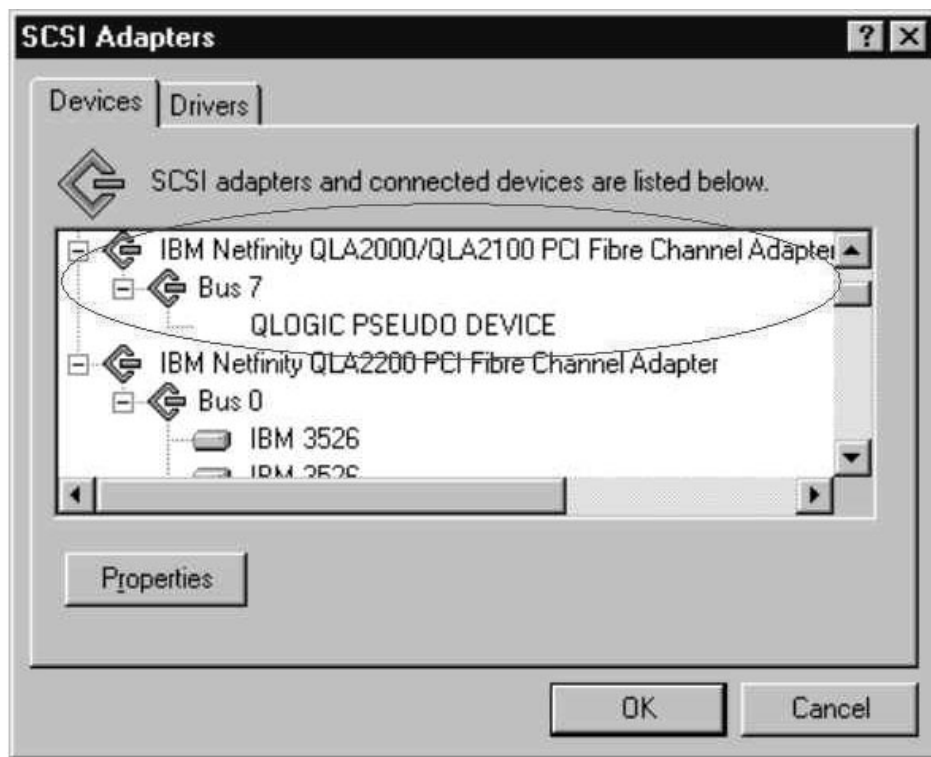

Figure 64. SCSI adapters
1. Windows NT comes up to the blue screen and reports the first two lines (version, number of processors, and amount of memory). Windows NT takes a long time to start. The SCSI Adapters applet in the Control Panel displays the window shown in Figure 64 for the 2100.